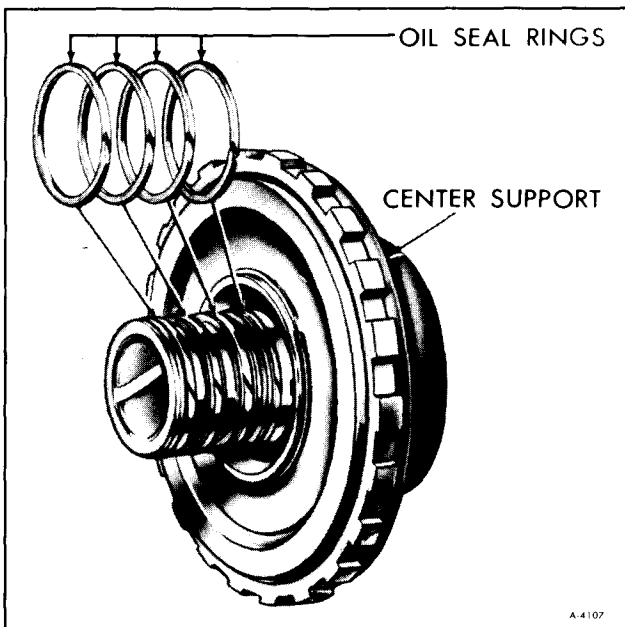

Figure 60—Removing Oil Seal Rings
2. If replacement is required, remove oil seal rings from the center support. All service center support oil seal rings are hook type cast iron or teflon, Figure 60.